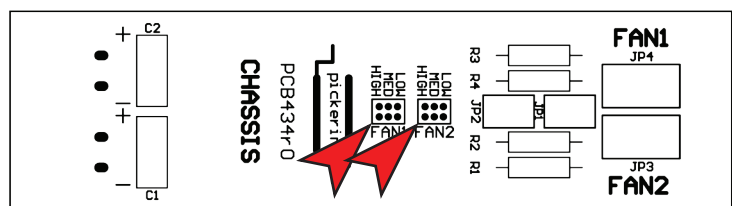

Figure 3.4 - Legend on the fan controller board with the speed setting links highlighted
6. Referring to the legend on the fan controller boards, set the speed of each fan by removing the link from its current position and refitting it to the required setting (each board controls two fans). The legend on the controller board is shown in Figure 3.4.